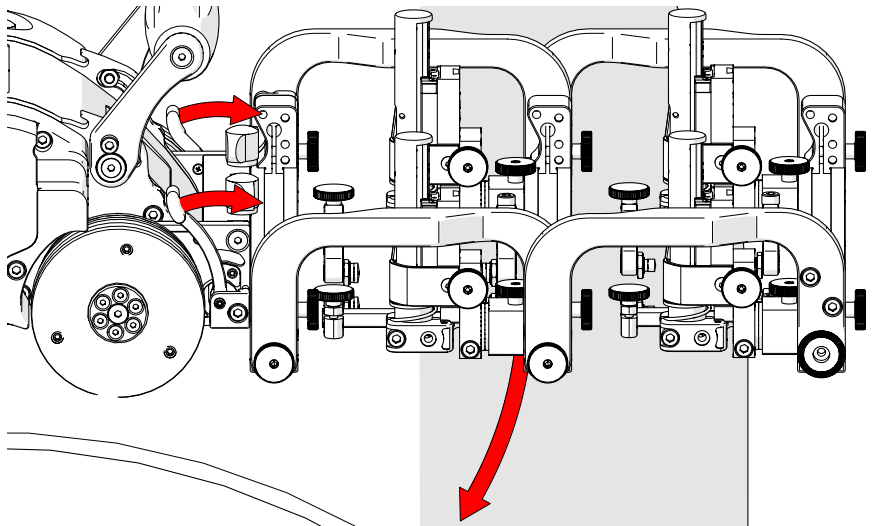
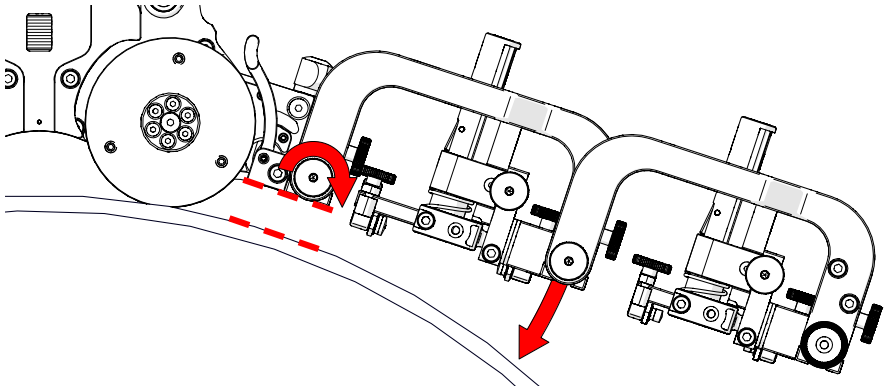

Fig. 161 - Align swivel mount with scan surface
Fig. 162 - Set rear rotational adjustment knob
3. Mount the probe holder frame to the crawler (*see Cable Retainer on page 48 for additional details*). When mounting the probe holder frame, ensure the attachment knobs (*Fig. 161*) are at the front (*non-crawler side*).
4. Release the two swivel mount levers (Fig. 161) to position the swivel mount parallel to the scan surface (Fig. 162). When alignment with the scan surface is achieved, lock the crawler swivel mount levers.
5. Loosen the rear rotational adjustment knob to lower the weld scan frame towards the inspection surface (Fig. 162).